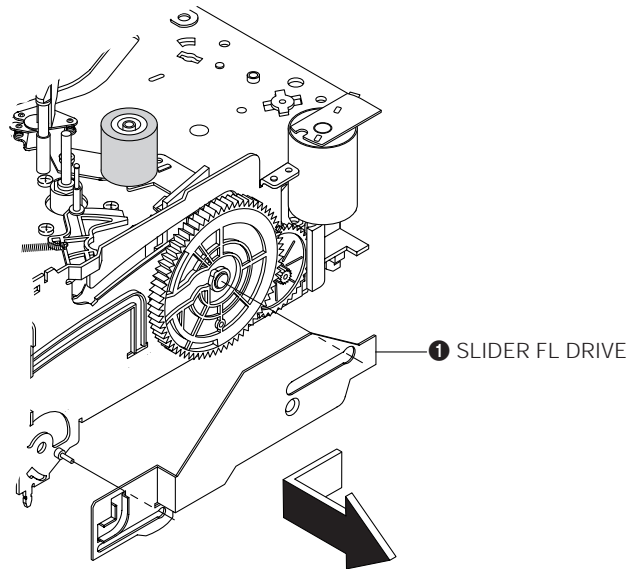

Fig. 4-8 Slider FL Drive Removal
2. Remove the Slider FL Drive **1** in the direction of arrow. (Refer to Fig. 4-8)